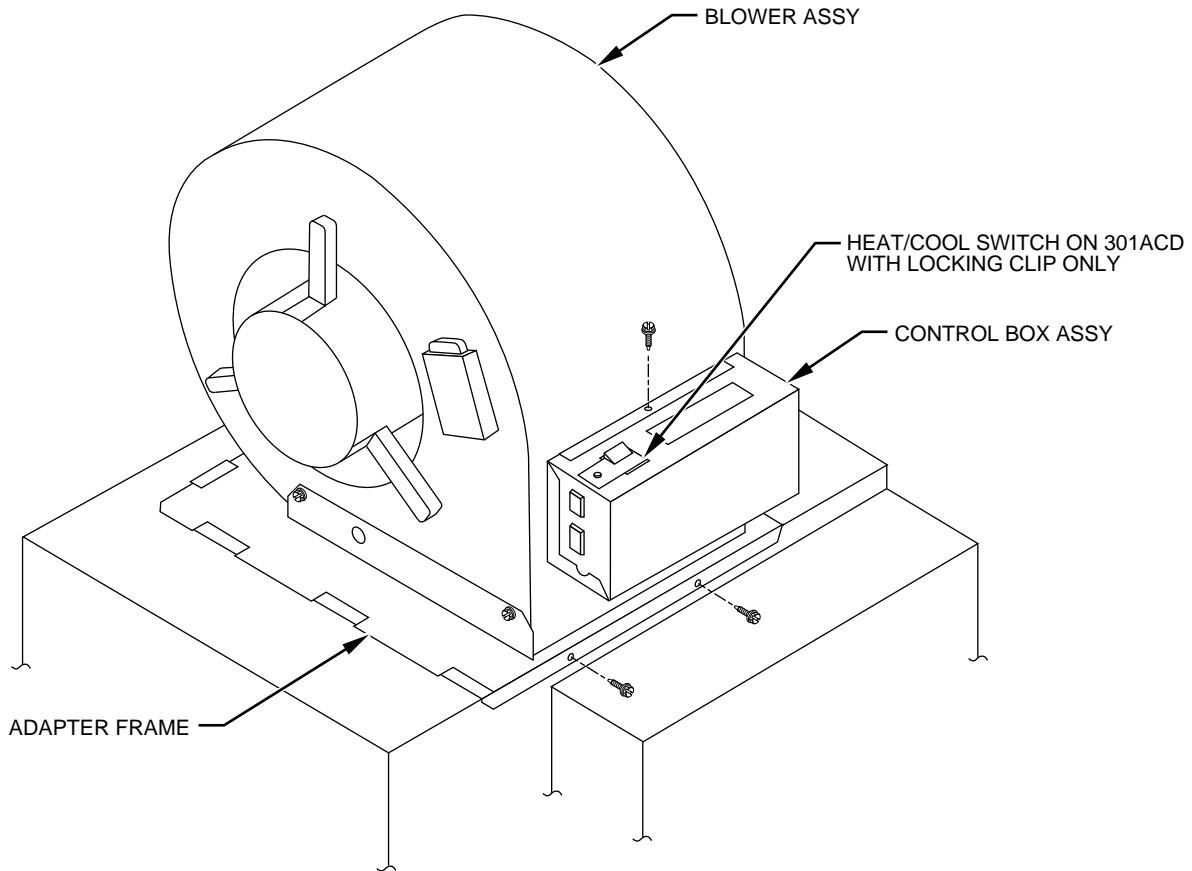

Fig. 2—Blower Mounted in Unit
- d. Mount control box to cover on blower with screw removed in Procedure 3 -1 above. (See Fig. 2.) Make sure bottom of cover engages inside of control box flange.
- 2. Start blower rail flanges into blower slots and push blower into furnace until mounting bracket flange sits against furnace. (See Fig. 2.)